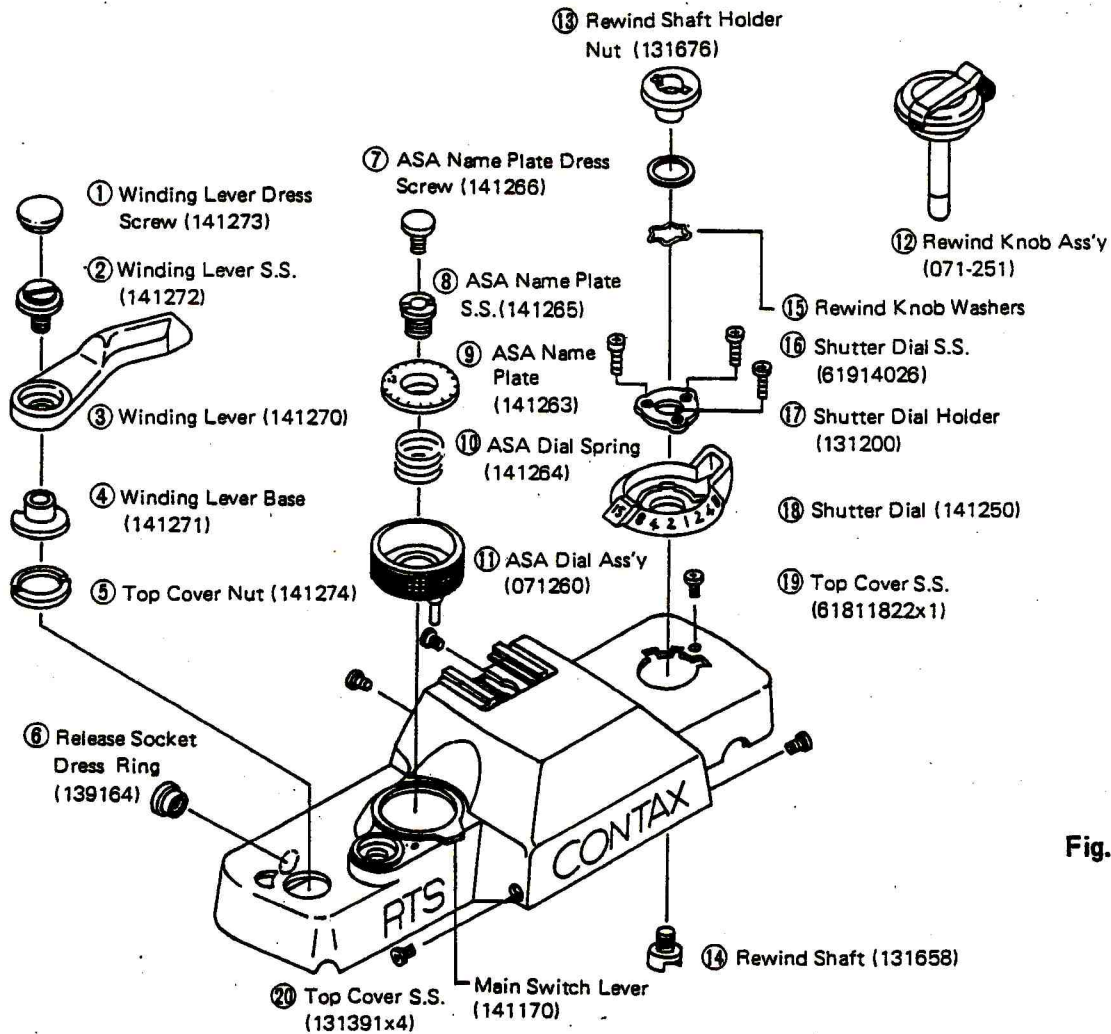

Fig. 1
(1) Top Cover;
Remove the respective parts ① ~ ⑳ shown in (fig. 1) in numerical order.